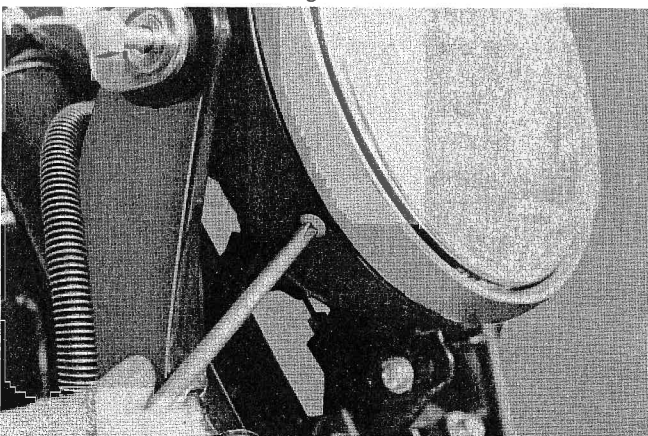

Fig. 18
14. Remove the two Phillips-head anchor screws, one each, from the lower right and left parts of the head lamp shell. Insert a slotted-head screwdriver between the shell and the lens assembly mounting ring on the bottom of the head lamp shell, and pry out the lens assembly. (Fig. 18)